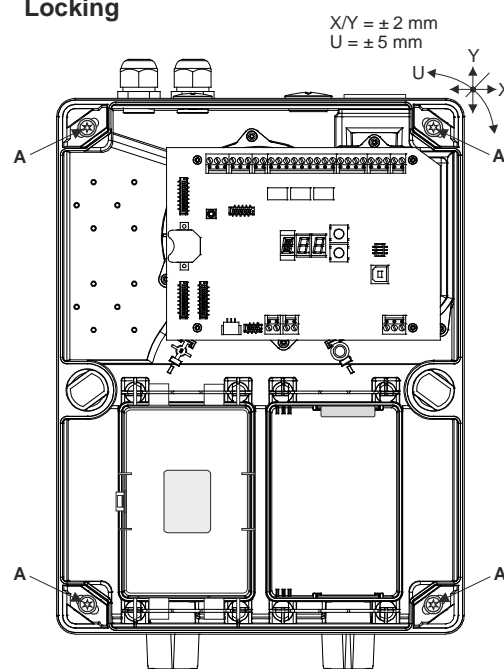

Fig. 15 Open, closing and securing the detector housing
- To actuate the **rotary snap locks**, **press** them **firmly** with the screwdriver towards the housing base and then **turn** through 90°. The position of the lock slit shows the current status (see Fig. 15):